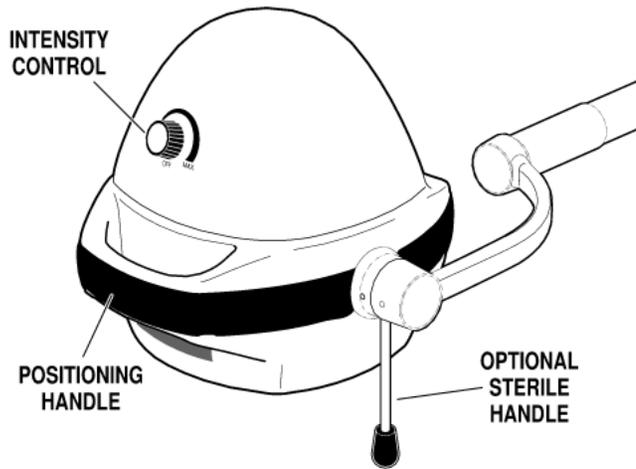
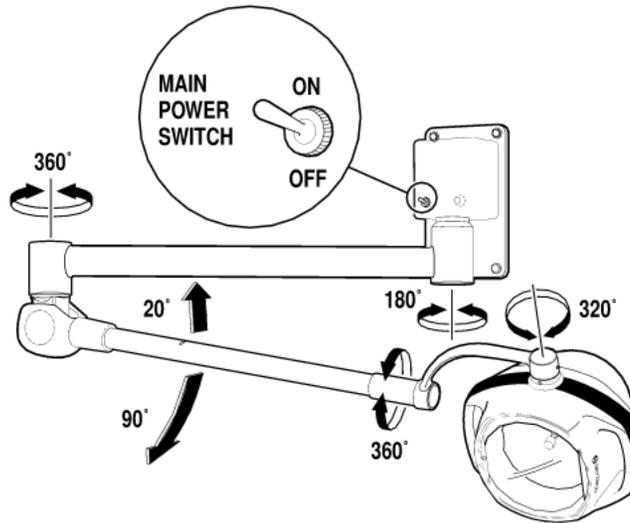

Figure 1-1. Model ST9 Lighthead
Figure 1-3. Model ST9W
1. Turn the power to the light fixture "ON" at the wall switch if applicable. Turn the power to the lighthead "ON" at the lighthead mounted Intensity control. See figure 1-1.
1. Turn the power to the light fixture "ON" at the fixture "On/Off" switch located on the wall mount housing. See figure 1-3. Turn the power to the lighthead "ON" at the lighthead mounted Intensity control. See figure 1-1.
2. Using the positioning handle, place the lighthead in the desired position. Rotate the intensity control to select the desired intensity. Refer to figure 1-3 for full positioning capabilities.